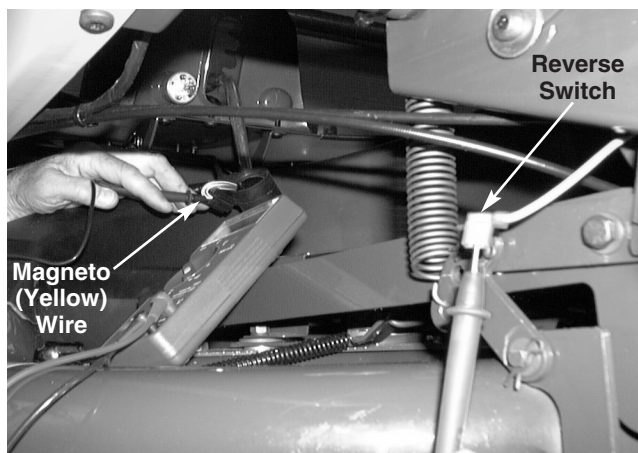

FIGURE 7.
–There will be **CONTINUITY**. See figure 7.